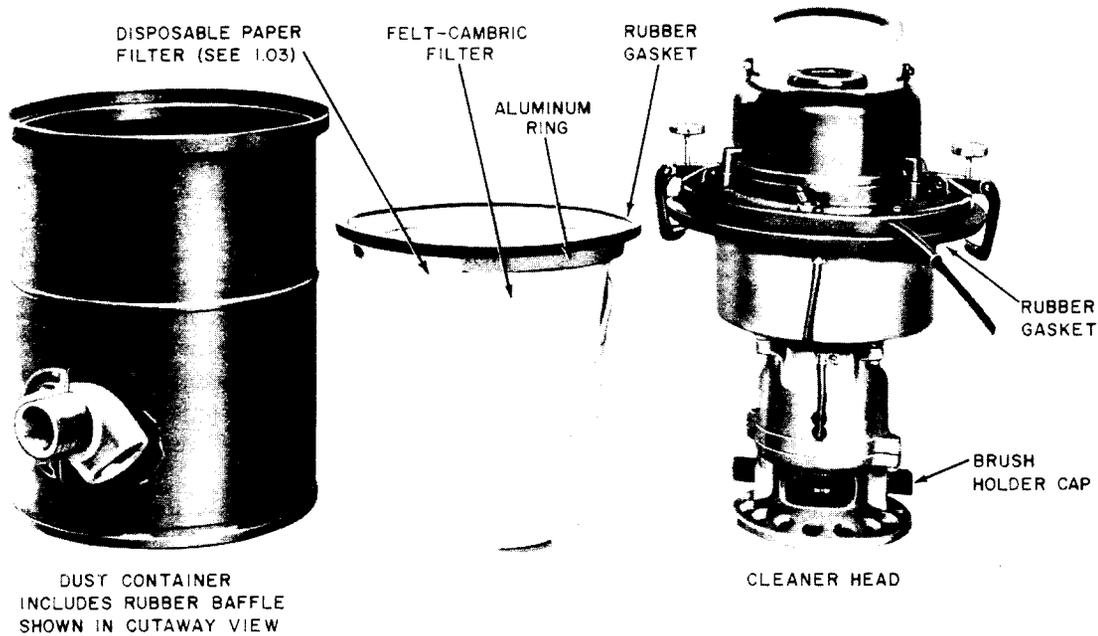

Fig. 2—KS-14377 L5 (Standard) and L6 (Silent) Vacuum Cleaner
(3) If the dust container is provided with the rubber baffle described in 1.03 and shown in Fig. 2, the filter assembly should have a disposable paper filter mounted over the felt-cambric filter. If the paper filter is clogged with dust or is missing, mount a new paper filter as follows: Remove the old paper filter. Examine the felt-cambric filter and if it is clogged or torn replace it. Slip the new paper filter over the outside of the felt-cambric filter until the cardboard ring in the paper filter is against the rubber gasket of the filter assembly.
(4) If the dust container does not have a rubber baffle as shown in Fig. 2, examine the felt-cambric filter and if it is clogged or torn replace it.
(5) Place the filter assembly in the dust container and remount the cleaner head in the dust container as covered in 3.002(2).
(6) Clean the commutator as follows. Remove the motor brushes as covered in 3.003(1). Turn the commutator with the fingers and wipe the surface with a clean, dry KS-14666 cloth. If the commutator surface is smutted and cannot be so cleaned, clean it with a KS-14666 cloth moistened with KS-7860 petroleum spirits. Then wipe the commutator dry with a clean dry KS-14666 cloth. Remount the motor brushes as covered in 3.003(2).
(7) If the commutator needs reconditioning, refer the matter to the supervisor.
(8) After cleaning the parts, reassemble the vacuum cleaner as covered in 3.002(2).
(9) Clean the external surfaces of the vacuum cleaner with a KS-14666 cloth.